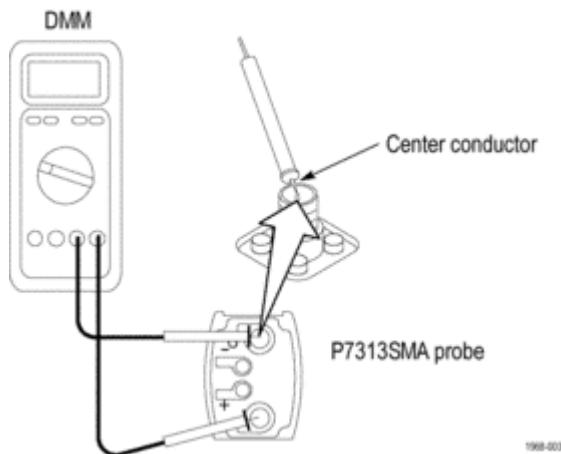

Figure 24: Checking differential mode input resistance
3. Remove the SMA terminations from the two probe inputs and gently probe the center contacts of the input connectors. Be careful not to touch the outer edge (ground) of the connector. (See Figure 24.)